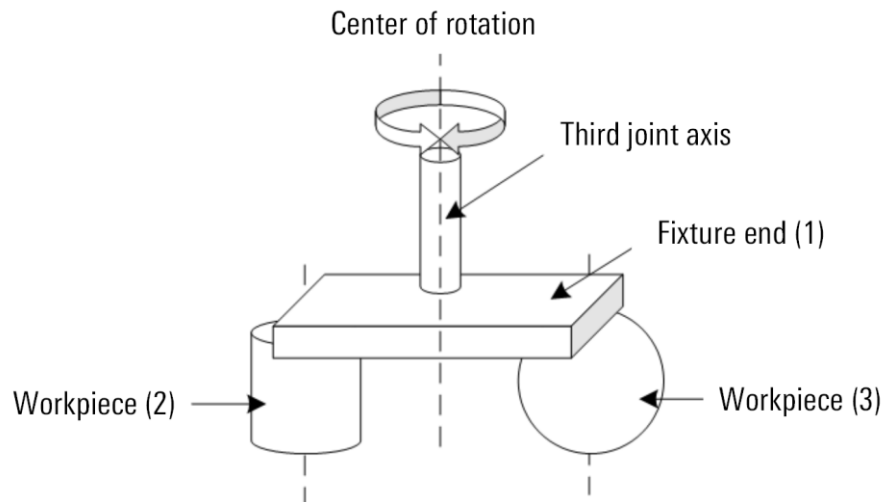

Figure 5-10 Diagram of calculating load moment of inertia
As shown in Figure 5-10, the calculation example of the rotational inertia (torque) of the load (end of the fixture holding the workpiece) is presented. The rotational inertia (torque) of the entire load is obtained by summing up parts (1) to (3).